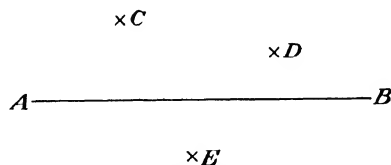

Fig. 131
1. In your notebook draw any diagram similar to Fig. 131. Draw a line through  $C$  parallel to line  $AB$ .
2. Draw lines through  $D$  and  $E$ , each parallel to line  $AB$ , in Fig. 131.
3. Draw a perpendicular from  $E$  in Fig. 131 to line  $AB$ .